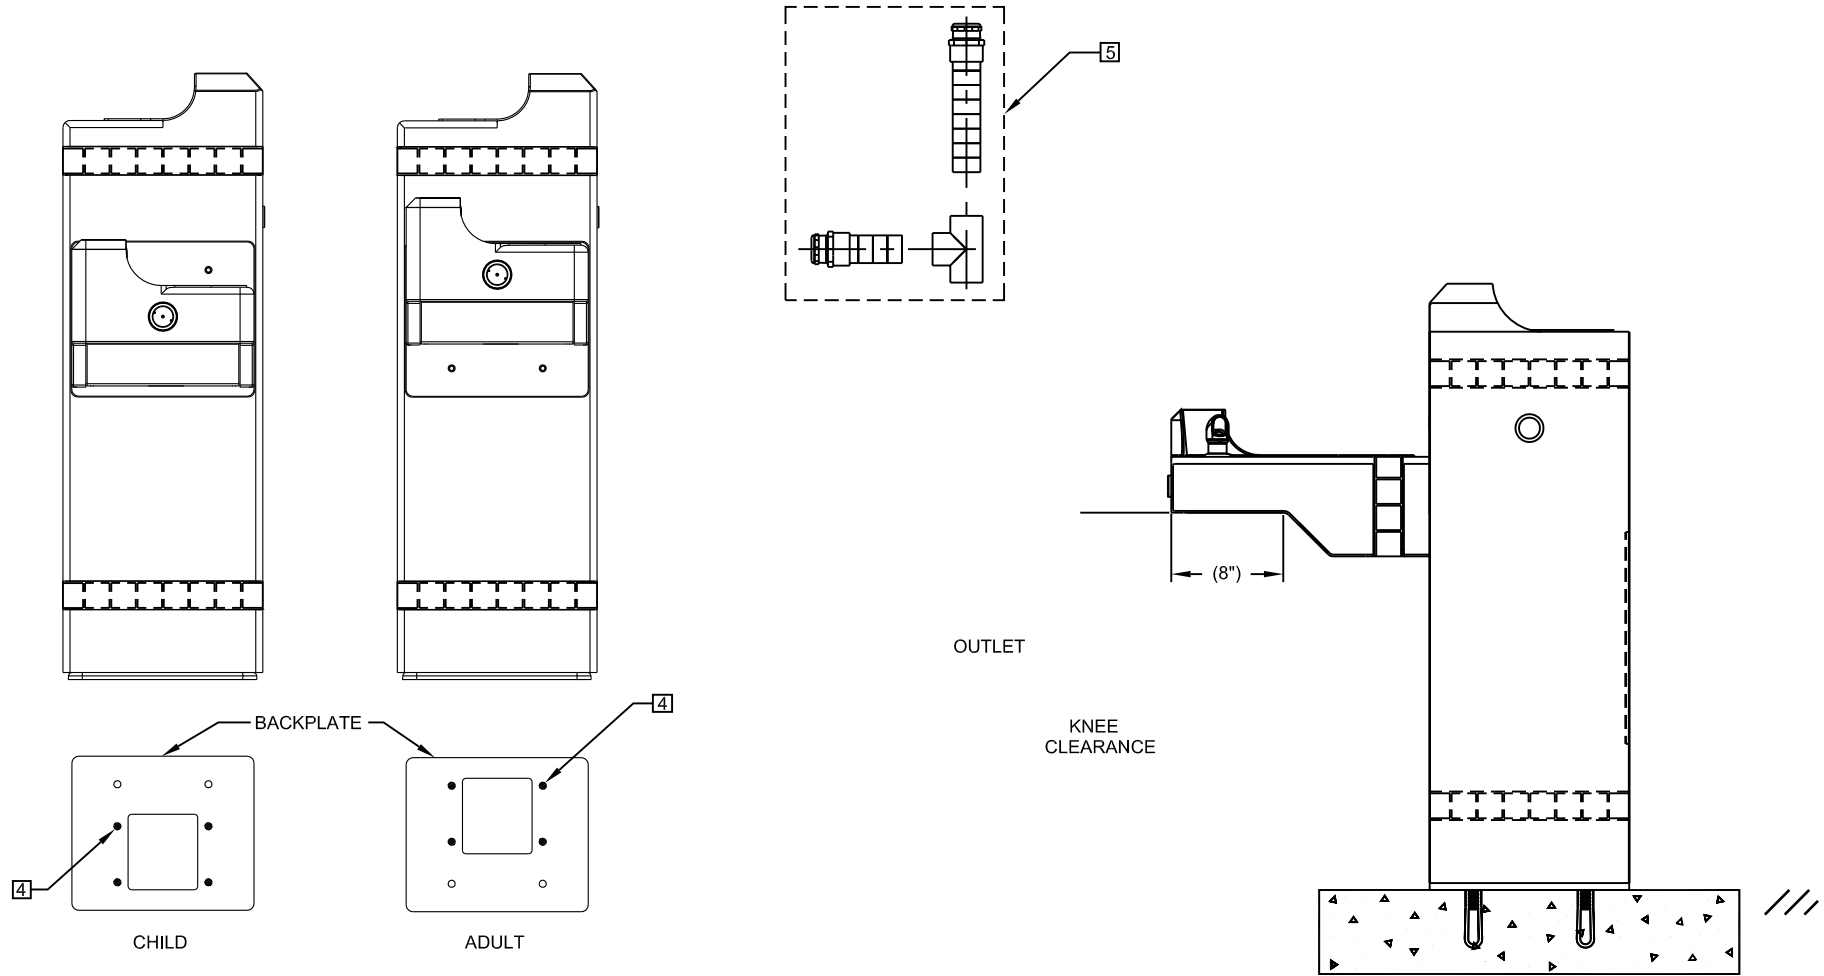

FIGURE 1
- ④ BASED ON DESIRED HEIGHT (CHILD OR ADULT) OF ARM, ORIENT BACKPLATE AS SHOWN IN FIGURE 1 AND USE APPROPRIATE SHADED HOLES.
- ⑤ WASTE ASSEMBLY IS SUPPLIED DISASSEMBLED. THE SHORTER OF THE TWO PIECES IS FOR THE ARM DRAIN, AND MUST BE INSTALLED SO THAT ANY BEND IN THE FLEX TUBING WILL ALLOW WATER TO DRAIN COMPLETELY. THE LONGER IS FOR THE PEDESTAL DRAIN AND IS SUPPLIED AT THE LENGTH REQUIRED TO ASSEMBLE THE UNIT WITH THE ARM AT CHILD HEIGHT. IN ORDER TO ASSEMBLE AT ADULT HEIGHT, 3" MUST BE CUT FROM THE END OF THE FLEX TUBING PRIOR TO ASSEMBLY. TEE IS TO BE GLUED TO THE FLEX TUBING WASTE ARMS USING PVC PIPE CEMENT.